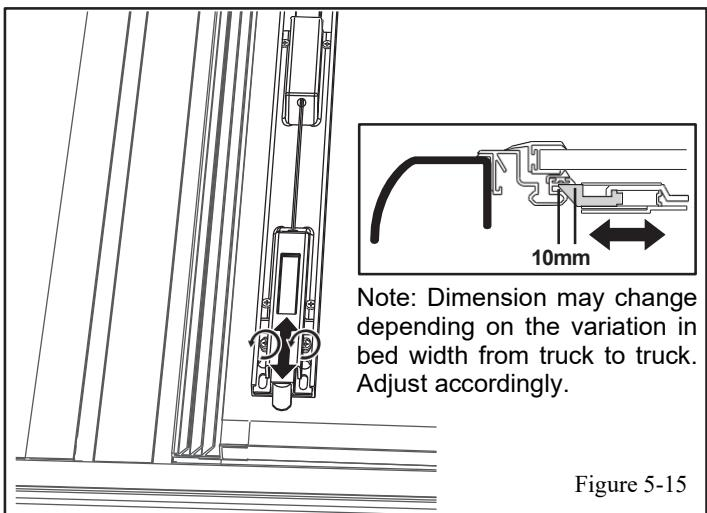

Figure 5-15
- (o) The cover panel latches can also be adjusted by loosening the mounting screws and moving the latch assembly out or in to better engage the cover side rail. Re-tighten the screws. (Figure 5-15)